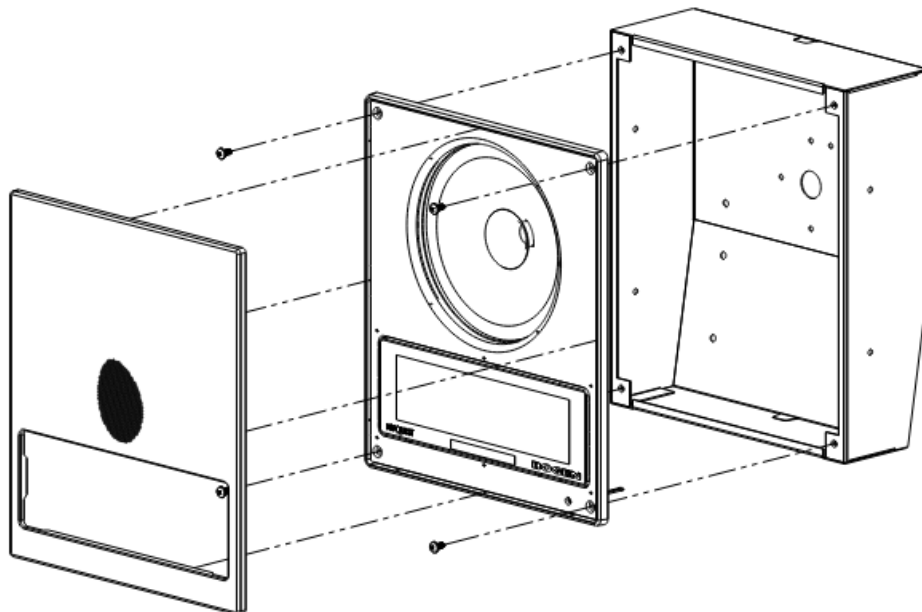

Figure 9: Attaching grille and baffle to enclosure.
7. Reattach the baffle to the enclosure with the four screws provided, then press fit the grille into the baffle as shown in Figure 9.